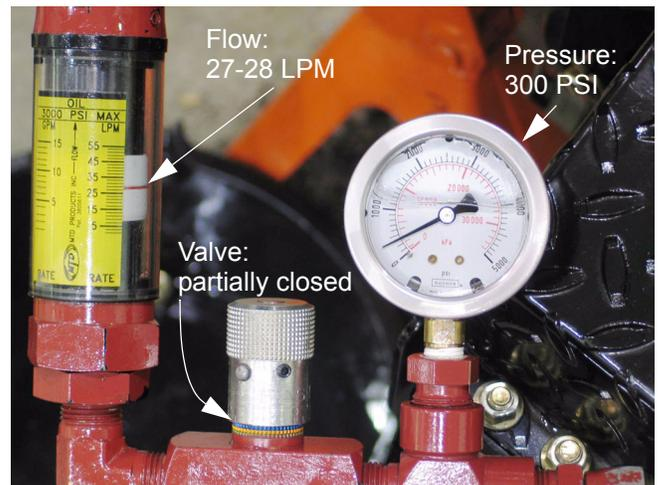

Figure 24.22a
- Close the load valve until the pressure gauge reads around 300 PSI (20.68 Bar.) Observe the fluid flow rate. It should be near 7GPM (26.5 LPM). See Figure 24.22a